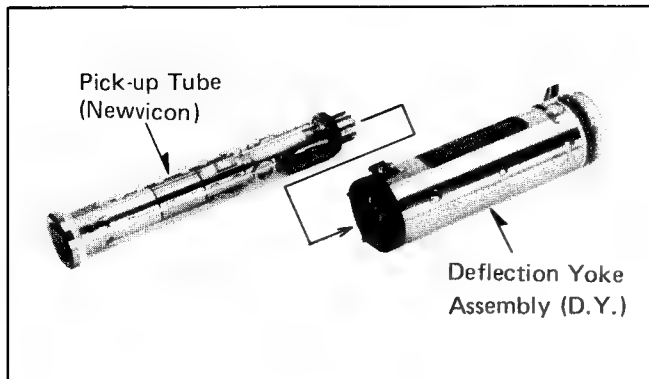

Fig. 9. Pick-up Tube and D.Y.
- 3-11. Install the new pick-up tube (S4165) in the deflection yoke assembly (see Fig. 9).